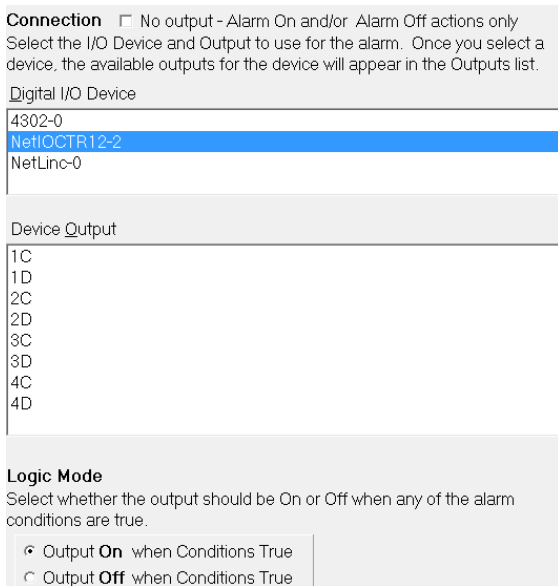

Figure 5. Select Device Output 1C
Step 5: Start Total Vu. In *Configure>Full Configuration>Alarms* ICON. Select *Add Alarm* to launch the alarm wizard. Configure outputs 1C, 1D & 2C for RED, YELLOW & GREEN lights respectively (optional audible alarms on 2D). Follow wizard screens; Figures 5 - 9 below.